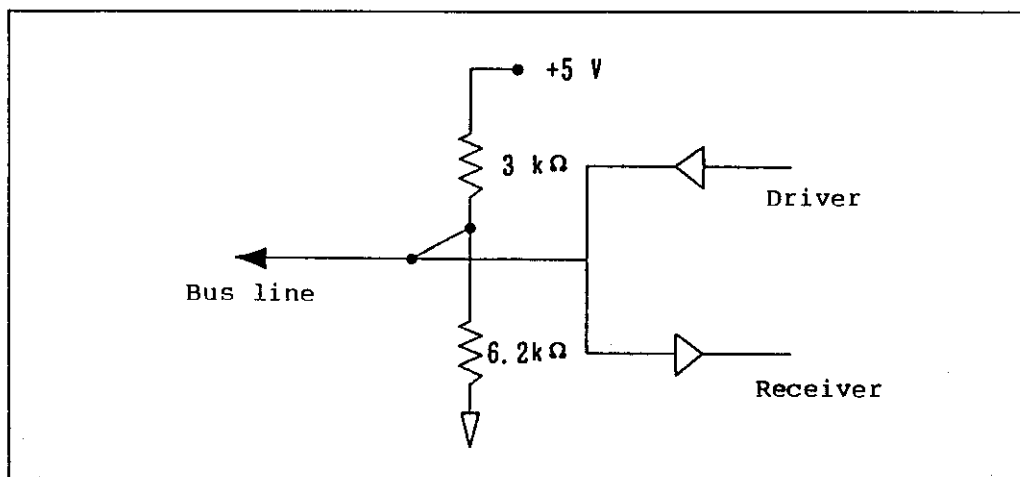

Figure 7 - 3 End of Signal Line
- Signal line end : 16 bus lines terminate as illustrated in Figure 7 - 3.